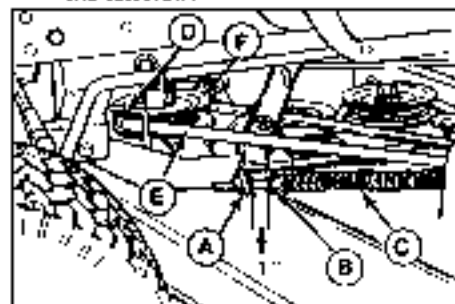
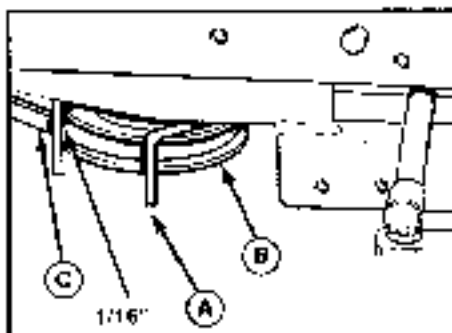

Figure 31. Mower Drive Belt Tension Adjustment - 42" & 48"
Figure 32. Right-Hand PTO Pulley Belt Stop
2. Measure the distance between the PTO rod guide (A, figure 31) and the set collar (B). The distance should measure one inch. If not, proceed to step 3.
4. Loosen the setscrew in the set collar (B). Move the rod forward to increase gap, or backward to decrease gap. Retighten the setscrew.
There are two belt stops at the PTO pulley; one on the left (D, figure 31) and one on the right (A, figure 32). With the PTO lever engaged, measure the distance between the belt stop and belt. There should be 1/16 inch (1.5 mm) clearance between each belt stop and the belt. To adjust a belt stop, loosen its mounting capscrew, move the belt stop, and retighten the capscrew. Recheck the measurement.
Make sure the belt stop (D, figure 31) is level with the pulley. If the belt stop is level, each side will be an equal distance from the belt. To reposition the belt stop, loosen the mounting capscrew on the bracket underneath the pulley. Retighten hardware securely.